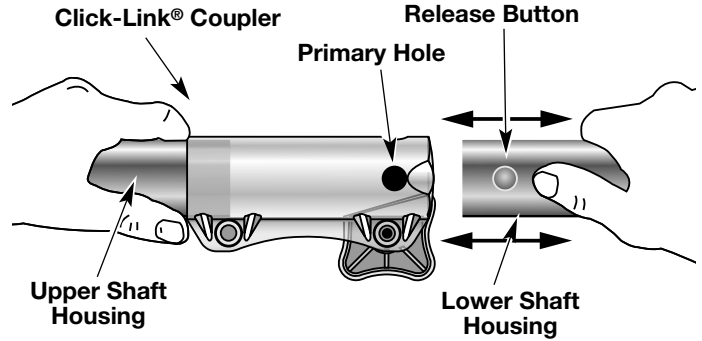

Fig. 11
2. While firmly holding the add-on, push it straight into the Click-Link® coupler (Fig. 11).
- NOTE:** Aligning the release button with the guide recess will help installation (Fig. 11).